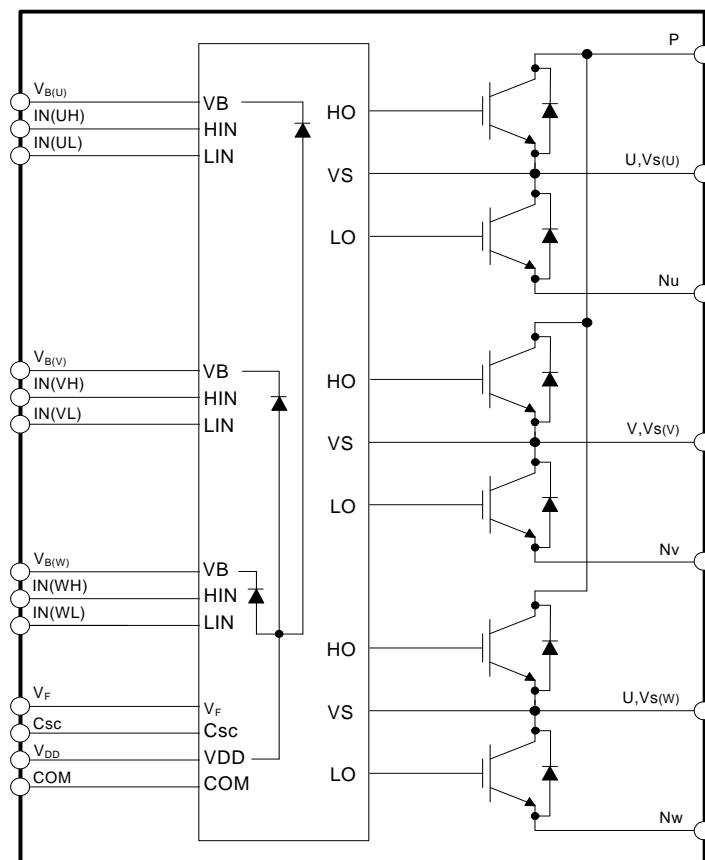

Figure 3. Internal Block Diagram
- 600 V - 10 A IGBT inverter for three phase DC / AC power conversion (Please refer to Figure 3)